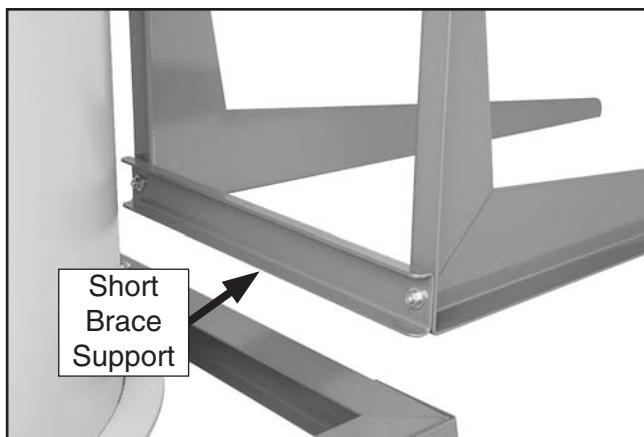

Figure 32. Short filter brace support attached.
31. Attach the filter L-braces to either side of the outlet port on the blower housing with (6) $5/16$ "-18 x 1" hex bolts, (12) $5/16$ " flat washers, and (6) $5/16$ "-18 hex nuts.
32. Secure the short filter brace support to the back of the filter L-braces with (2) $3/8$ "-16 x $3/4$ " hex bolts, (4) $3/8$ " flat washers, and (2) $3/8$ "-16 hex nuts (see **Figure 32**).